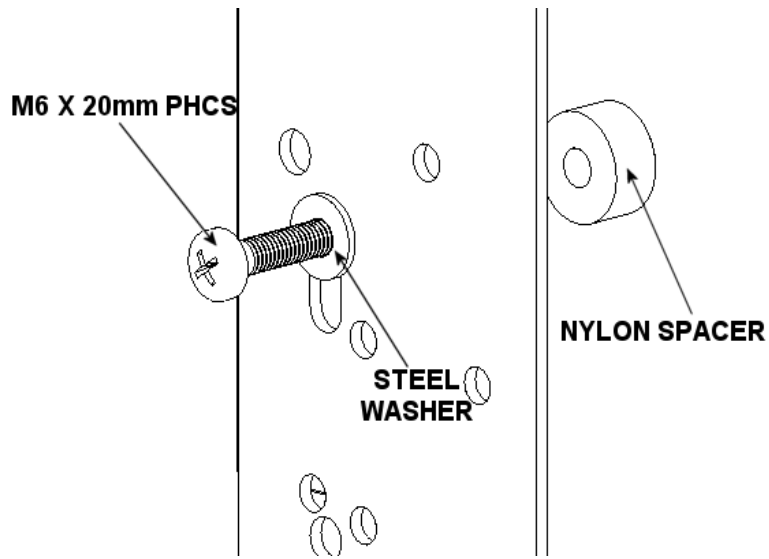
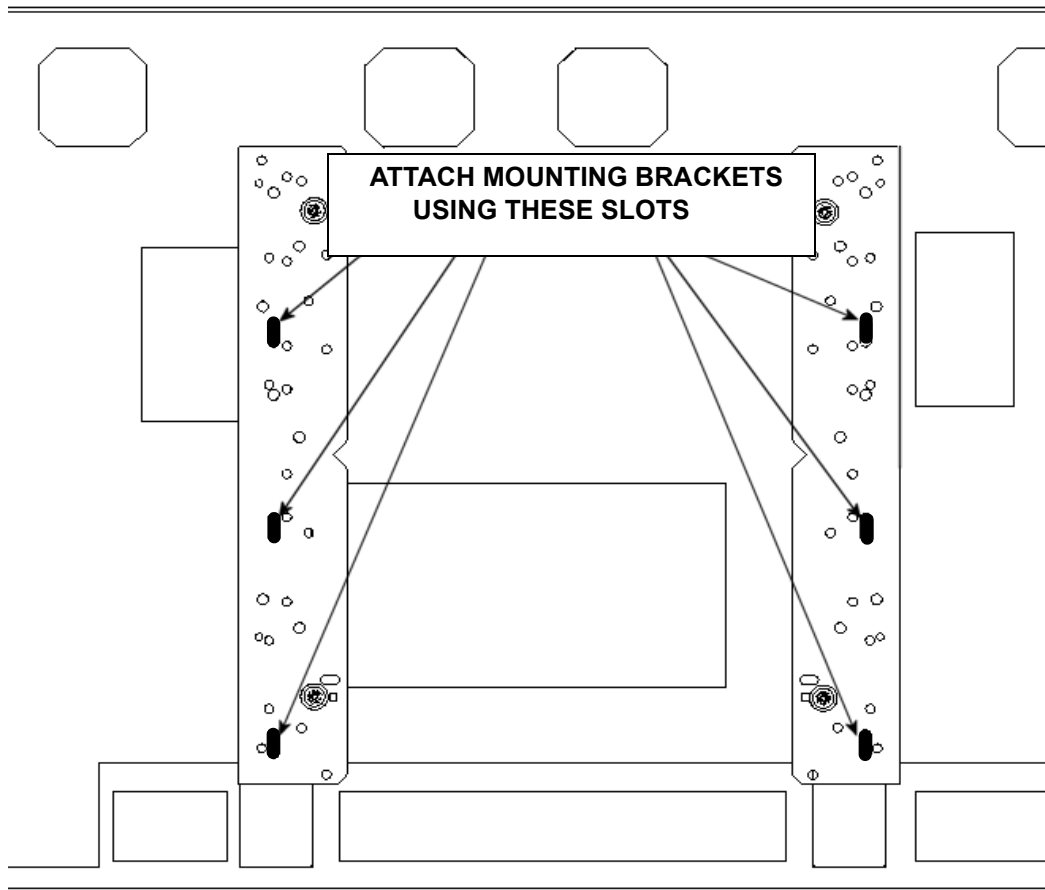

Figure 12. Spacer Installation for Group 3
Figure 13. Bracket Attachment for Group 3
4. Place the interface brackets over the Nylon spacers (see Figure 12 and Figure 13).
6. Using the hardware in the parts bags labeled H and J, place one steel flat washer over the interface bracket (see Figure 12 and Figure 13) and secure the interface brackets to your Large Flat Panel display using the M6X20mm screws. Do not overtighten the mounting screws.